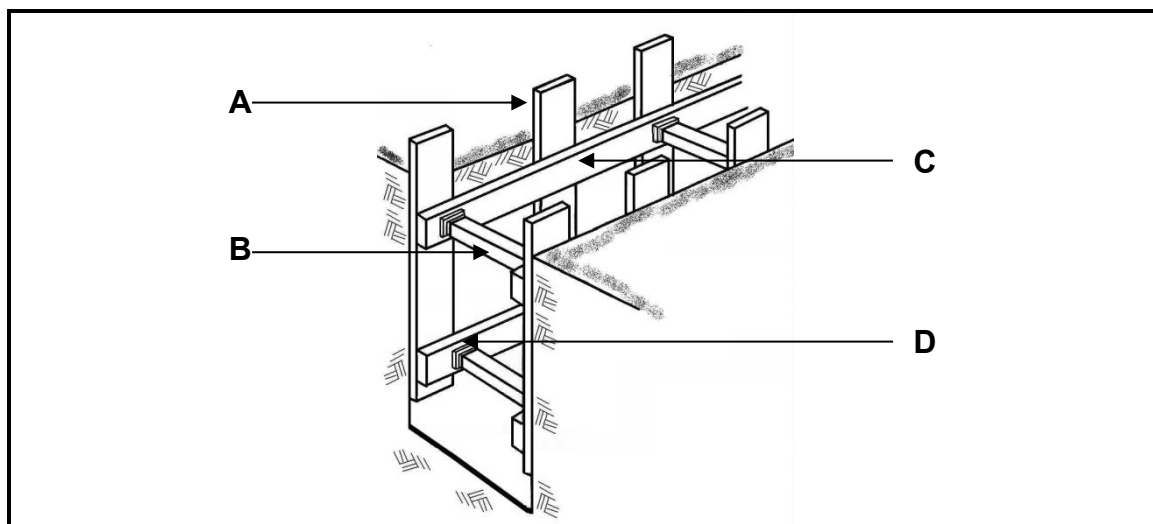

FIGURE 4.10
4.10 Answer the following questions with regard to the shuttering in FIGURE 4.10.
4.10.1 Identify the type of soil in FIGURE 4.10. (1)